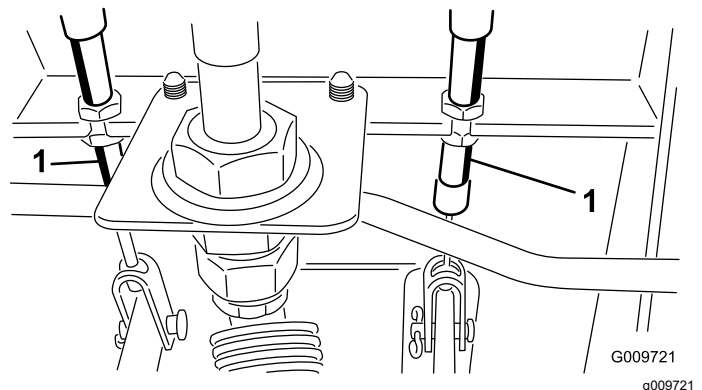

Figure 101
- A. Loosen the front nut on the threaded end of the brake cable (Figure 101).